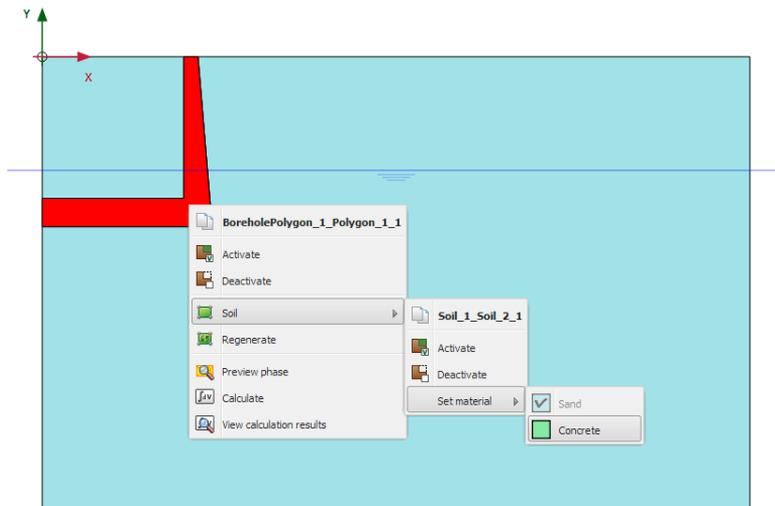

Figure 15.8 Assigning *Concrete* soil data set to the navigable lock
- In the *Staged construction* mode, assign the *Concrete* dataset to the created polygon which represents the navigable lock (Figure 15.8).